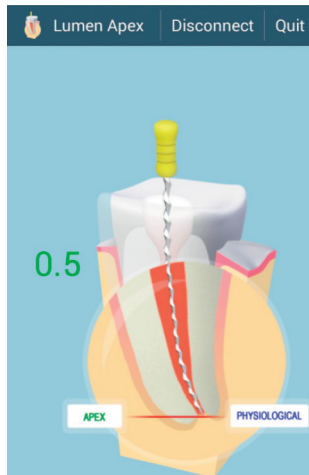
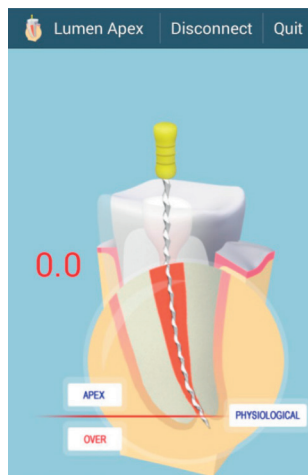

Fig. 7
Fig. 8
8. When the endodontic file reaches the apical constriction (Fig. 7), the read-out on the display will read green colour number 0,5, you will hear a fast beeping sound and you will see the file tip touch the APEX PHYSIOLOGICAL line in the root canal model.
**Warning:** If the endodontic file penetrates the apex (apex physiological) the notice “**OVER**” appears. If the endodontic file reaches apex anatomical a continuous sound is produced with a read-out 0.0 (Fig. 8). Lifting the file up one reaches the apical constriction again (Fig.7) with a typical read-out 0,5 and interrupted sound.
**Warning:** There is one very important extra feature. If the unit senses a root crack or perforation when the dentist moves the endodontic file in the root canal, it will emit a long, continuous beep, the word “**OVER**” will appear, and the read-out will display 0,0 (similar to what is shown in Fig. 8). The crack or perforation may exist at any distance in the root canal and it must be carefully filled.